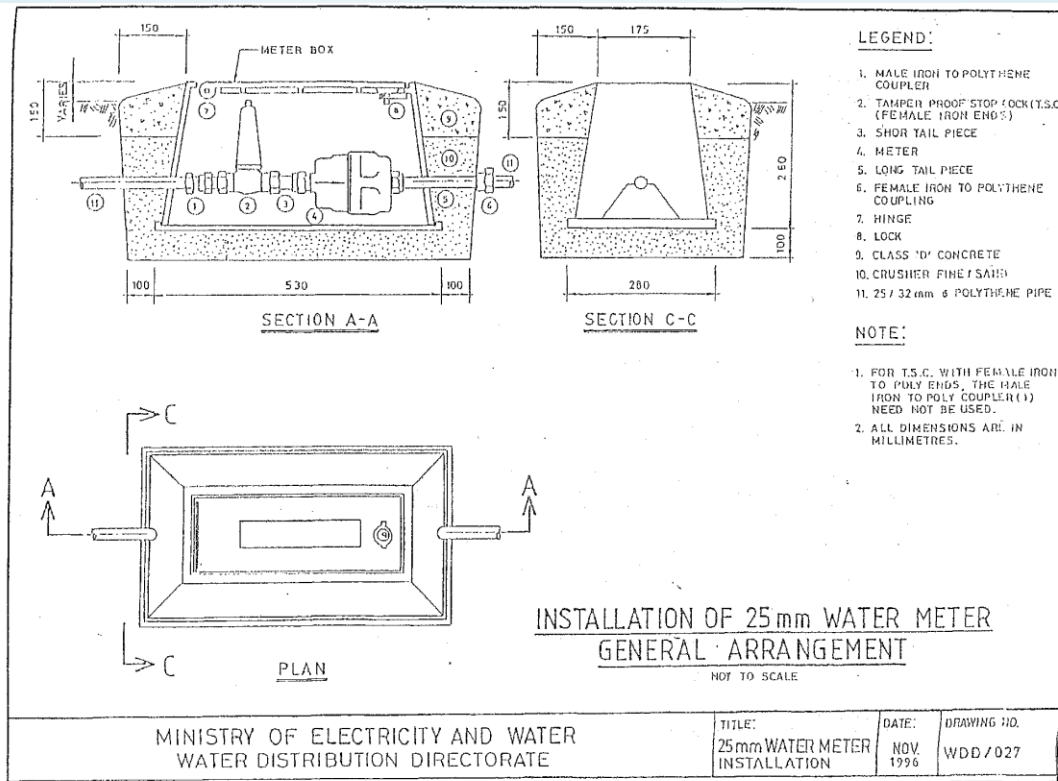

Figure 9. (25mm) Ground Meter Size For 6 to 30 Units
- The Ground meter type to be selected and installed for buildings with 6 to 30 units with (25mm) service connection, figure 9.